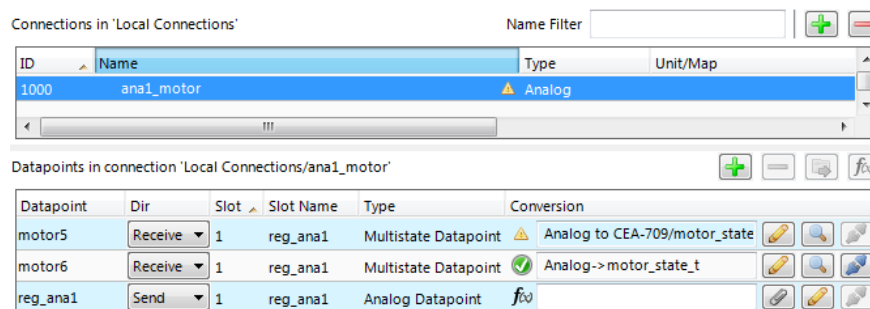

Figure 42: Connection tab with a connection and data points.
4. Now the connection tab contains the new connection and below the list of data points in that connection as shown in Figure 42.